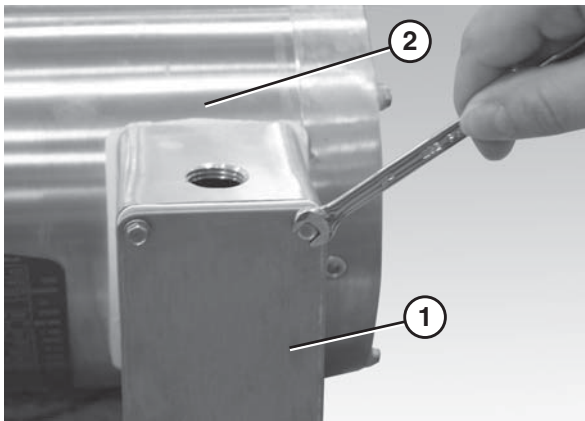

Figure 29
1. Loosen the screws and remove the cover (Figure 29, item 1) from the junction box located on the side of the motor (Figure 29, item 2).